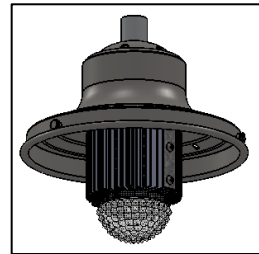

FIG.4 – REFLECTOR SUBASSEMBLY
3. REFLECTOR SUBASSEMBLY (Pre-assembled as shown in FIG. 4)